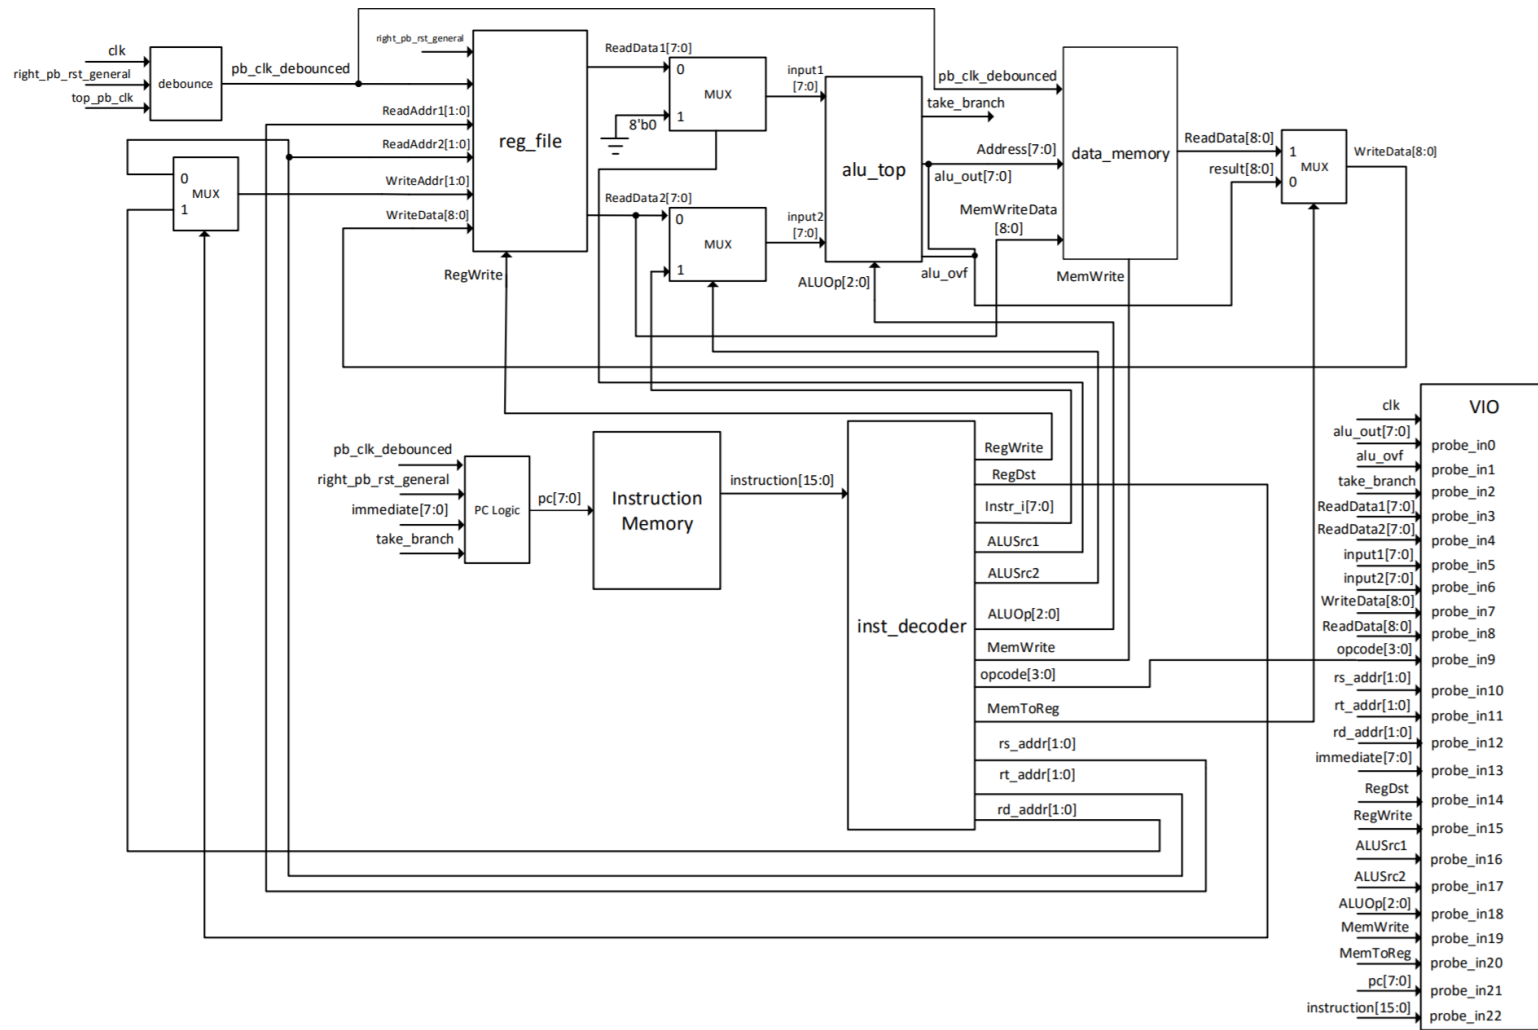

Figure 1: Final Computer
Figure 1 shows the top level design for your computer.
Enhance your program counter (PC) from lab 7 to handle branches. Inputs and outputs to the PC logic are shown in Fig. 1. Note that the signal `take_branch` is high when a branch, should be taken and low otherwise. In this architecture when we have a branch the next PC value should be the current PC value plus the offset which is extracted from the branch instruction. The offset is represented in two's complement, so the range of branch target is from  $PC - 128$  to  $PC + 127$ . Note that the value of PC should not exceed `0xFF` as we have a 256-deep instruction memory. You do not need to check for this condition in your hardware.
In this experiment we will be using both VIO and the SSD to display the output. The VIO module has the inputs shown in Fig. 1 and no outputs. You are using VIO to monitor what is happening in your hardware. All the control logic is being generated by you in hardware.